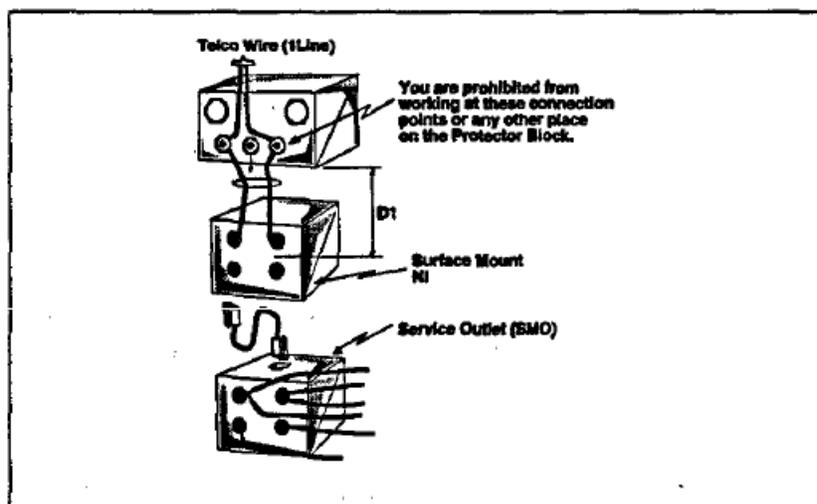

Figure A.3
2. It is possible to create you own Entrance Bridge, using an SMO, as shown in figure A.3. This is not a recommended practice. Entrance Bridge are specifically designed to provide for multiple cable connections and provide greater flexibility and reliability. If you decide to proceed with this type of installation make sure that the cord, connecting the NI to the surface mount outlet serving as an extension bridge, is as short as possible. This cord should never exceed 12".